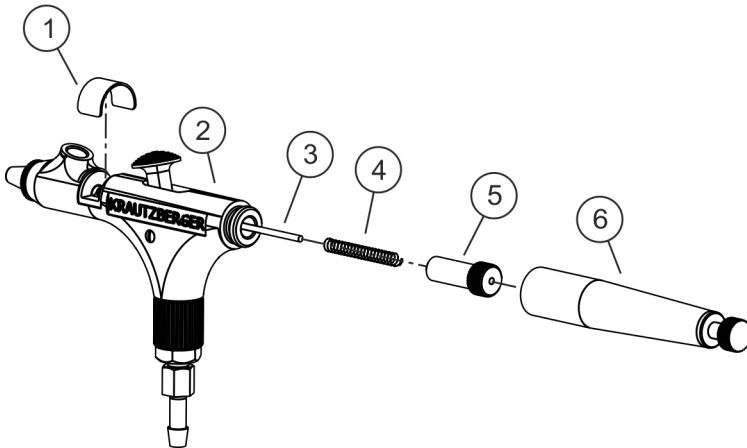

Fig. 8: Changing the seals
2. ➤ Unscrew locking piece (Fig. 8/6) from the main element (Fig. 8/2).
3. ➤ Unscrew the tension spring screw (Fig. 8/5) and remove the needle spring (Fig. 8/4).
4. ➤ Carefully pull out fluid needle (Fig. 8/3).
5. ➤ For a better view, remove the cover clamp (Fig. 8/1) from the main element (Fig. 8/2).